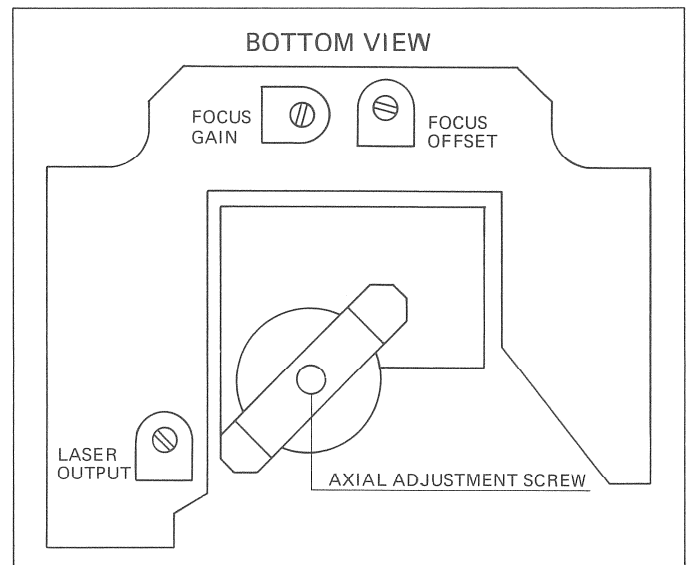

Fig. 4.16
- Adjust the voltage on R63 to $500\text{mV} \pm 50\text{mV}$ with the aid of trimmer potentiometer LASER OUTPUT (on player mechanism 1.769.100.36, Fig. 4.16). *565 75*